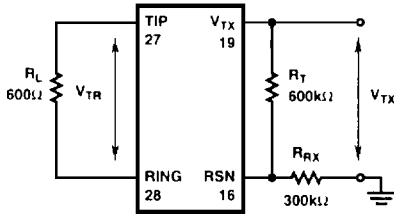

FIGURE 12. IDLE CHANNEL NOISE
- 22. Two-Wire Idle Channel Noise** - The 2-wire idle channel noise at  $V_{TR}$  is specified with the 2-wire port terminated in 600Ω ( $R_L$ ) and with the 4-wire receive port grounded (Reference Figure 12).
- 23. Four-Wire Idle Channel Noise** - The 4-wire idle channel noise at  $V_{TX}$  is specified with the 2-wire port terminated in 600Ω ( $R_L$ ). The noise specification is with respect to a 600Ω impedance level at  $V_{TX}$ . The 4-wire receive port is grounded (Reference Figure 12).